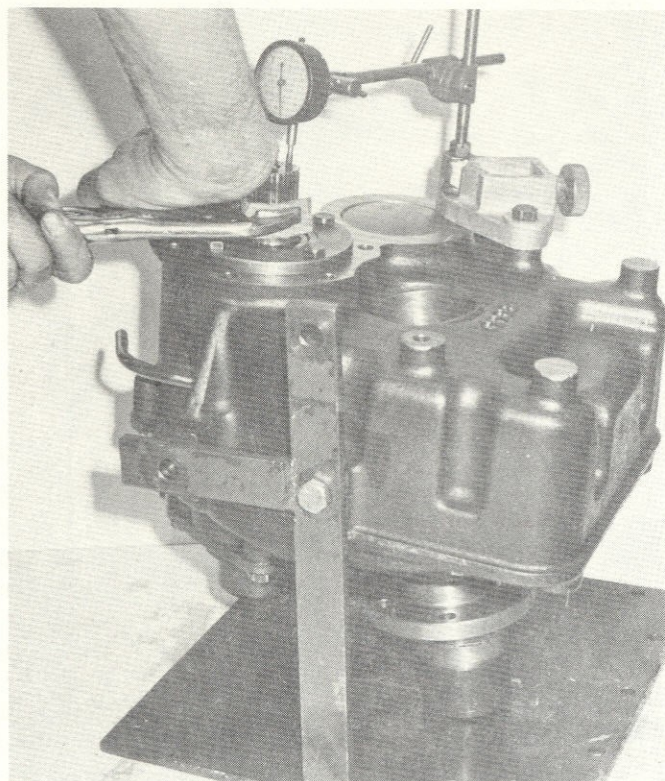

Figure 30. Checking End Play of Forward Clutch Shaft-Downward Pressure Applied.
The method of pushing and pulling the clutch shaft varies because of the inaccessibility of the rear of the shaft with collector mounted. Install an oil seal double lip type (fig. 47, 7) into the bore of the bearing retainer (9). Press the seal, dust lip outboard and oil lip inboard, into the bore from the front until the seal casement is flush with the outer surface of front of bore. Prelubricate the seal. Apply plastic gasket to mounting area of retainer (9) and main housing. (See page 30.) Install the bearing retainer (9) over the input end (splined) of the forward clutch shaft and against the main housing. Secure the retainer with four hex-head capscrews (8) (3/8-16 x 7/8). Tighten the capscrews to 27-30 lbs.-ft. Follow the same procedure for checking the end play as given for the reverse clutch shaft in paragraph 46C. Use cardboard or reasonable facsimile to protect the splines, and with a vise grip plier apply force downward and upward as described. See figures 30 and 31.